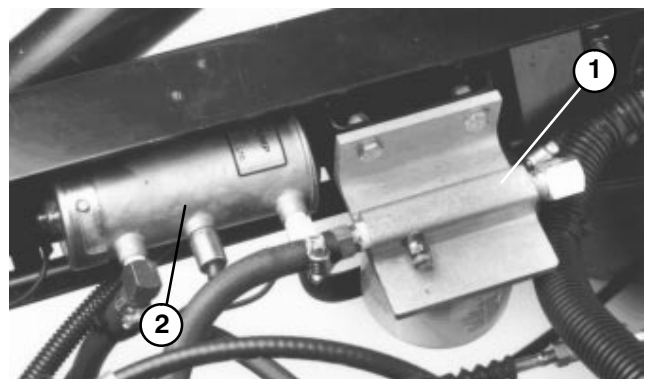

Figure 42
FUEL SYSTEM (Fig. 42–44)
- 2. Fuel filter/water separator is mounted on inner side of right frame rail (Fig. 42).
2. Fuel pump is mounted on inner side of right frame rail (Fig. 42).